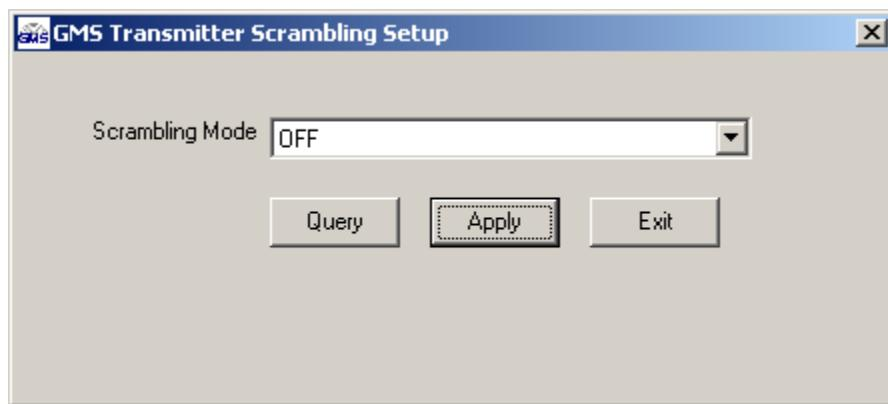

Figure 10 – Scrambling Set-Up
**Scrambling Mode (this menu may not be available if the option has not been purchased)** This option requires GMS DDPC card with AES option on RX side— The “Scrambling Mode” pull down text box offers three choices (see Figure 10):